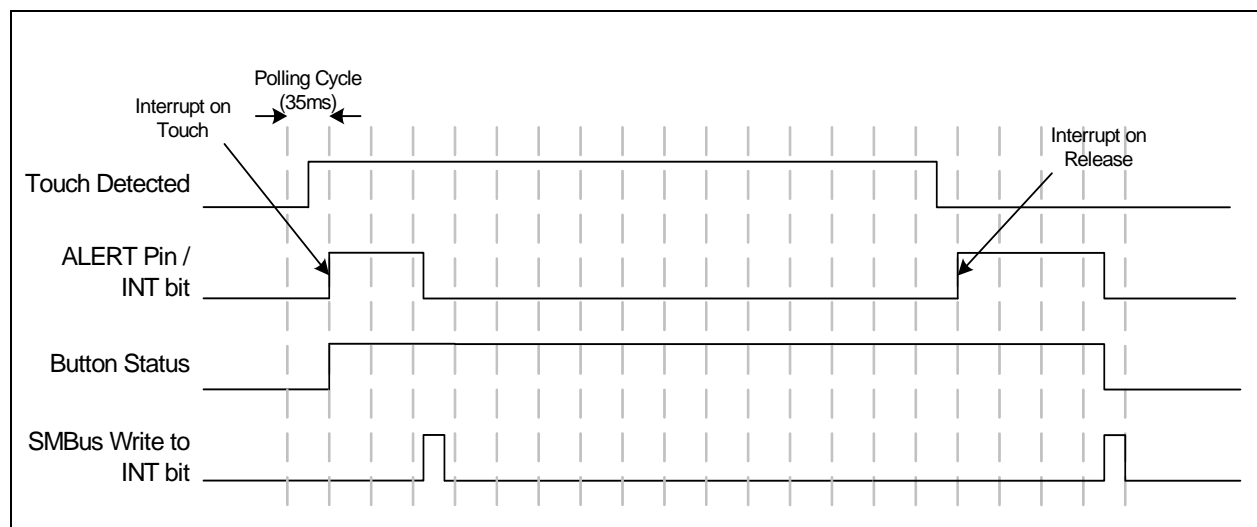

Figure 4.3 Sensor Interrupt Behavior - No Repeat Rate Enabled
1. An interrupt is generated when a touch is detected and when a release is detected (see Figure 4.3).